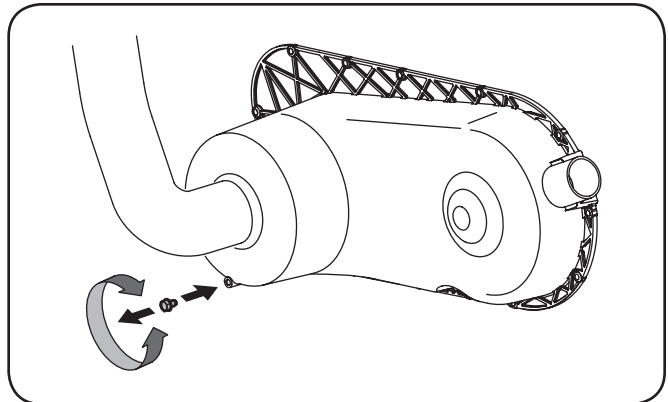

Figure 5-5
1. Remove CVT cover drain plug. See Fig. 5-5.